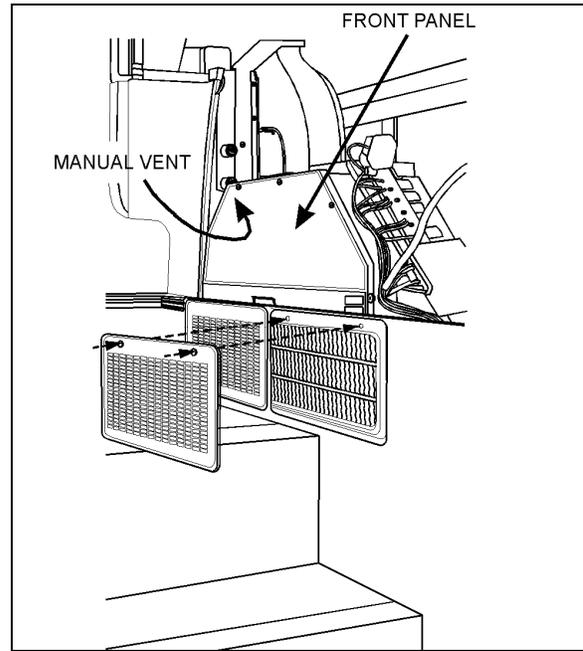

FIGURE 40: DRIVER'S HVAC UNIT 22172
4. From inside of vehicle, remove the two finishing panels in front of unit. Remove the three screws fixing the unit front panel. Open the manual vent located inside the HVAC unit, on the driver's side (Fig. 40) to ensure an efficient draining.
Whenever the heating system has been drained and refilled, or the system has run low on coolant and coolant has been added, it is necessary to bleed air from heating system. Locate the manual vents illustrated in Figures 40 and 44, and open them momentarily until no air escapes from the lines.